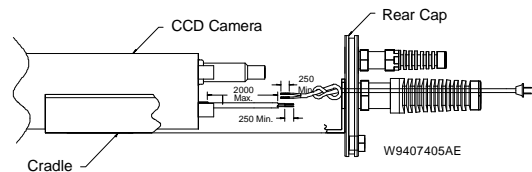

**Figure 4a: Camera/Zoom Lens Mounting Positions LTC 9353/00 and LTC 9358/00 Only**
**Zoom Lens Cameras:** Use same procedure as fixed lens cameras. All hardware shown below **must** be used. See **Figure 4a**.